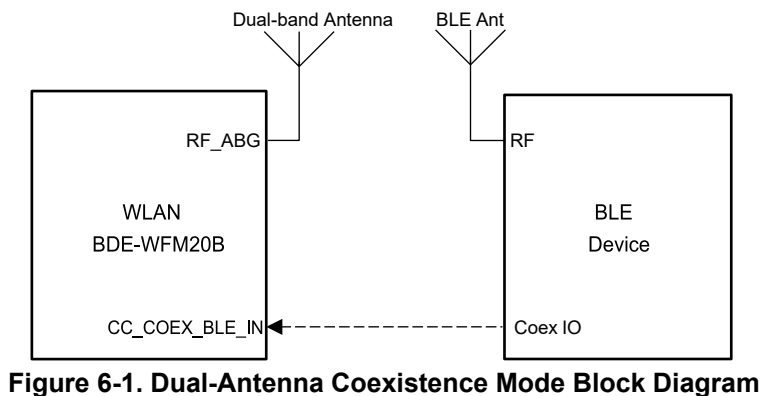

Figure 6-1. Dual-Antenna Coexistence Mode Block Diagram
- Dual-band Wi-Fi (see Figure 6-1)
Figure 6-1 shows the dual antenna implementation of a complete Bluetooth® low energy and WLAN coexistence network with the WLAN operating on either a 2.4- or a 5 GHz band. Note in this implementation a Coex switch is not required and only a single GPIO from the BLE device to the BDE-WFM20B device is needed.